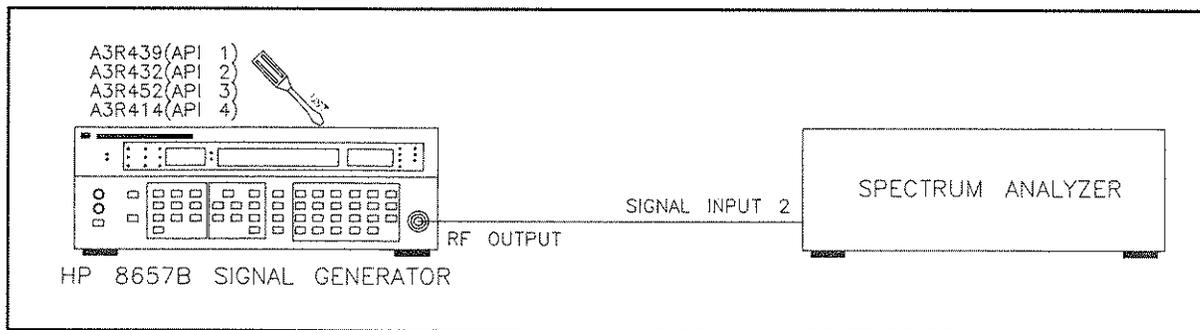

Figure 5-9. API 1, 2, 3 and 4 Adjustment Setup
- Connect the RF OUTPUT of the HP 8657B to the spectrum analyzer as shown in Figure 5-9.